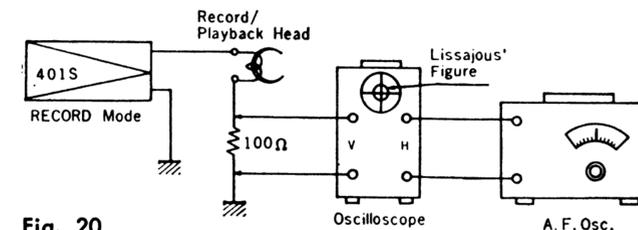

Fig. 20
Measuring Circuit: Refer to Fig. 20.
- As shown in Fig. 20, insert a 100Ω Resistor to ground Lead Wire of Record/Playback Head. Connect vertical Axis of Oscilloscope across Resistor. Connect horizontal Axis of Oscilloscope